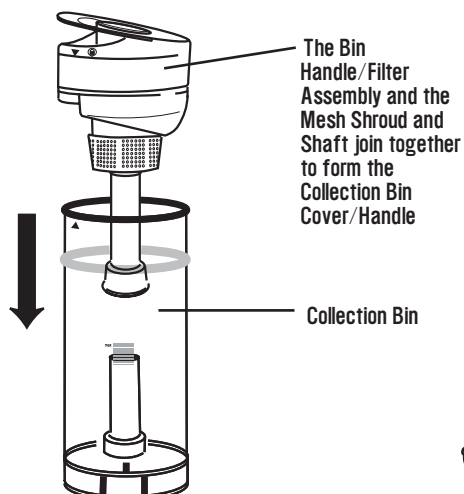

Figure 14c
3. Insert the assembled Collection Bin Cover/Handle into the Collection Bin, placing the bottom cup of the Shaft over the Collection Bin Dirt Arrestor. Line up the arrow on the Collection Bin with the Bin Handle/Filter Assembly. (See Figure 14c.)